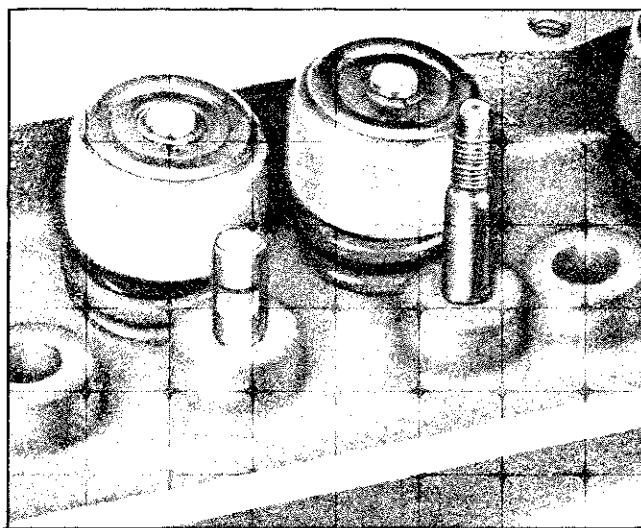

Fig. 6-87 Slots Filed in Rocker Arm Stud
4. With rocker arm removed, file two slots 3/32" to 1/8" deep on opposite sides of rocker arm stud (Fig. 6-87). Top of slots should be 1/4" to 3/8" below thread travel.